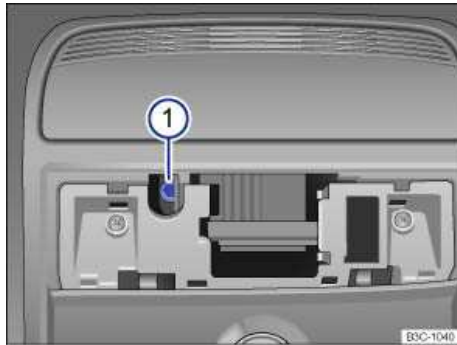

Fig. 176 Hexagonal head screw for closing the power sunroof.
2. Insert a commercially available 1/6 in (4 mm) Allen wrench⁵ into the hexagonal head screw ⇒ fig. 176 \(1\).